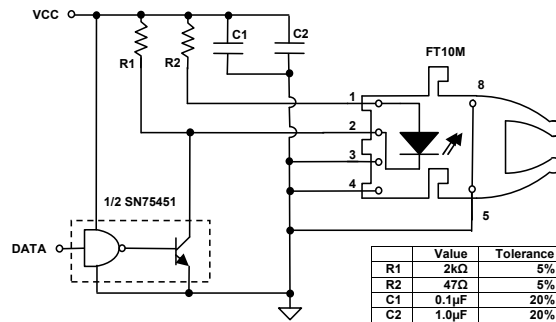

FIGURE 9
4. As measured in the given application circuit (inverting) shown in Figure 9 over 50 cm of 0.5 NA POF.